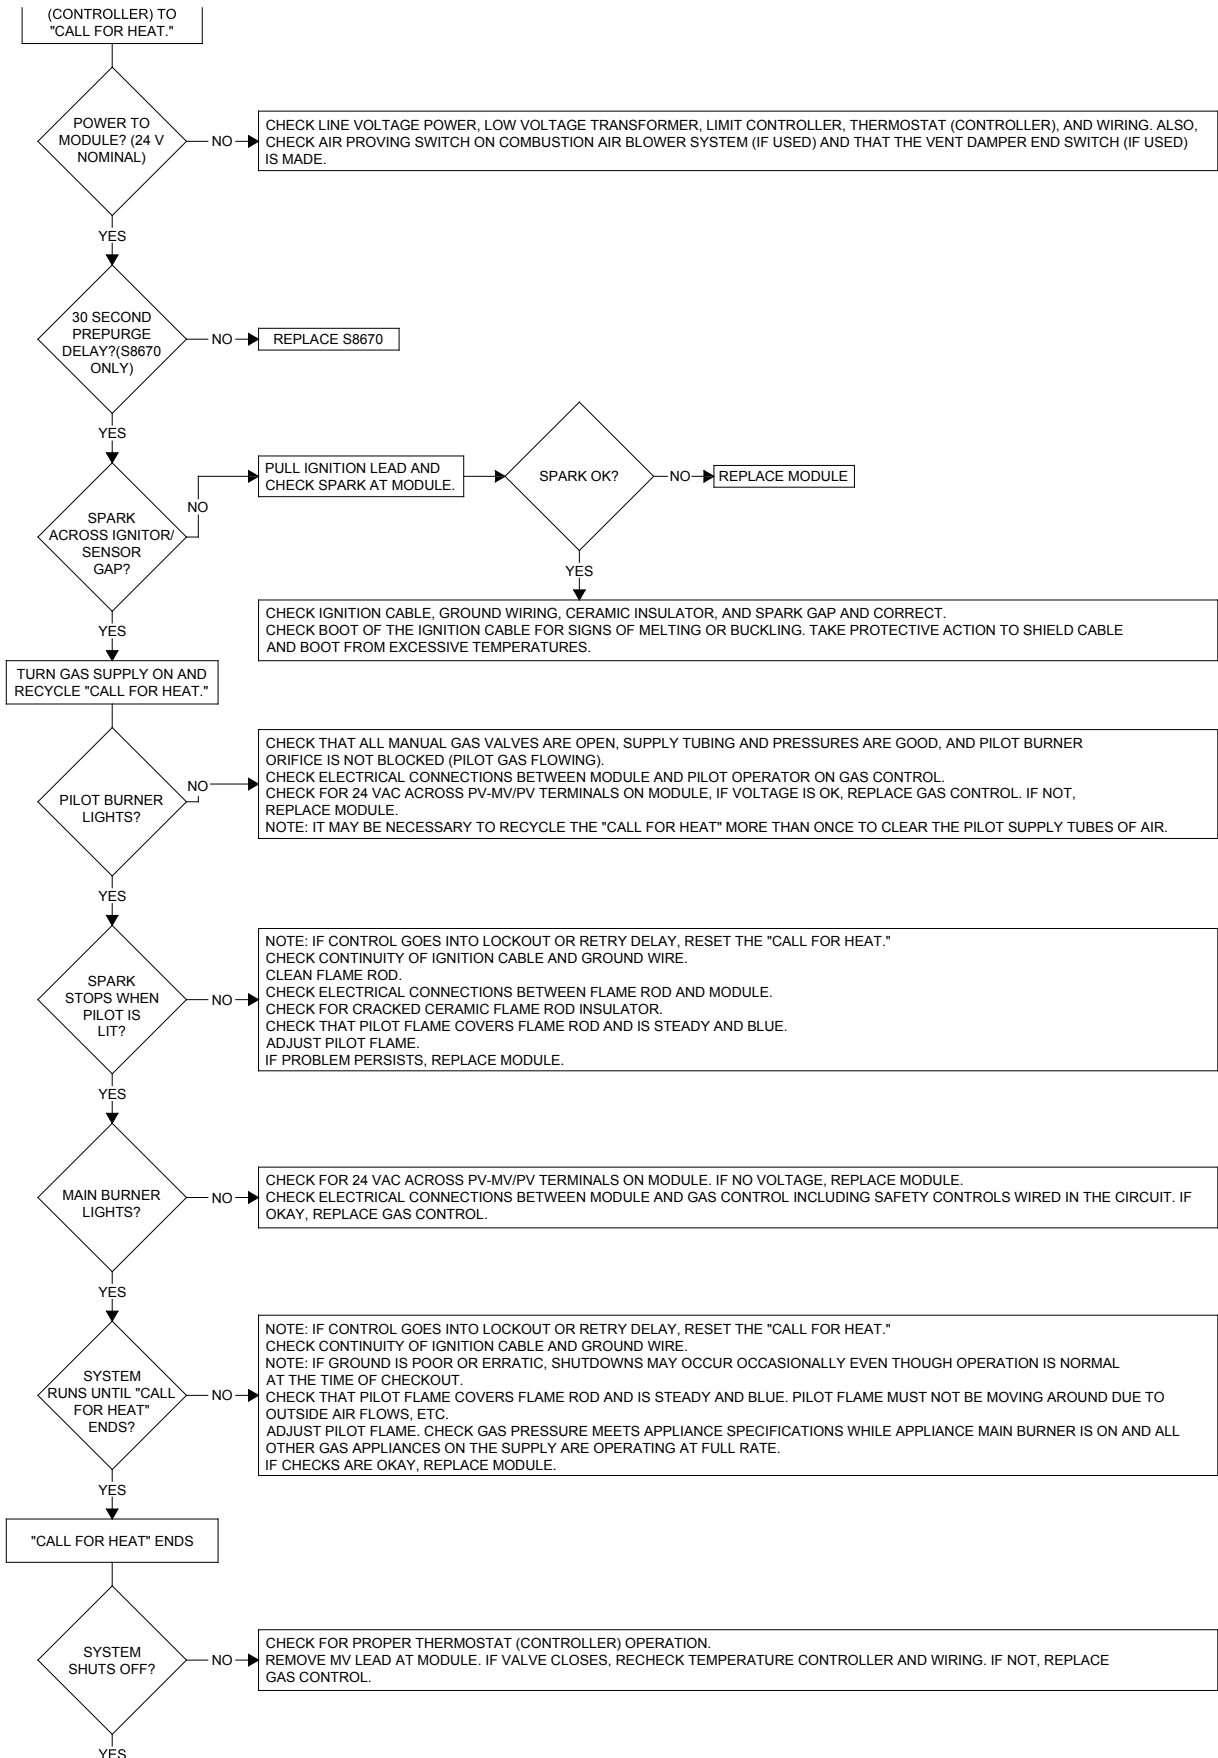

Figure 21: Honeywell Electronic Ignition Troubleshooting Guide
- e. If main burners do not light or if main burners light but system locks out, check the module ground wire and gas control as described in Figure 21 “Honeywell Electronic Ignition Troubleshooting Guide”.